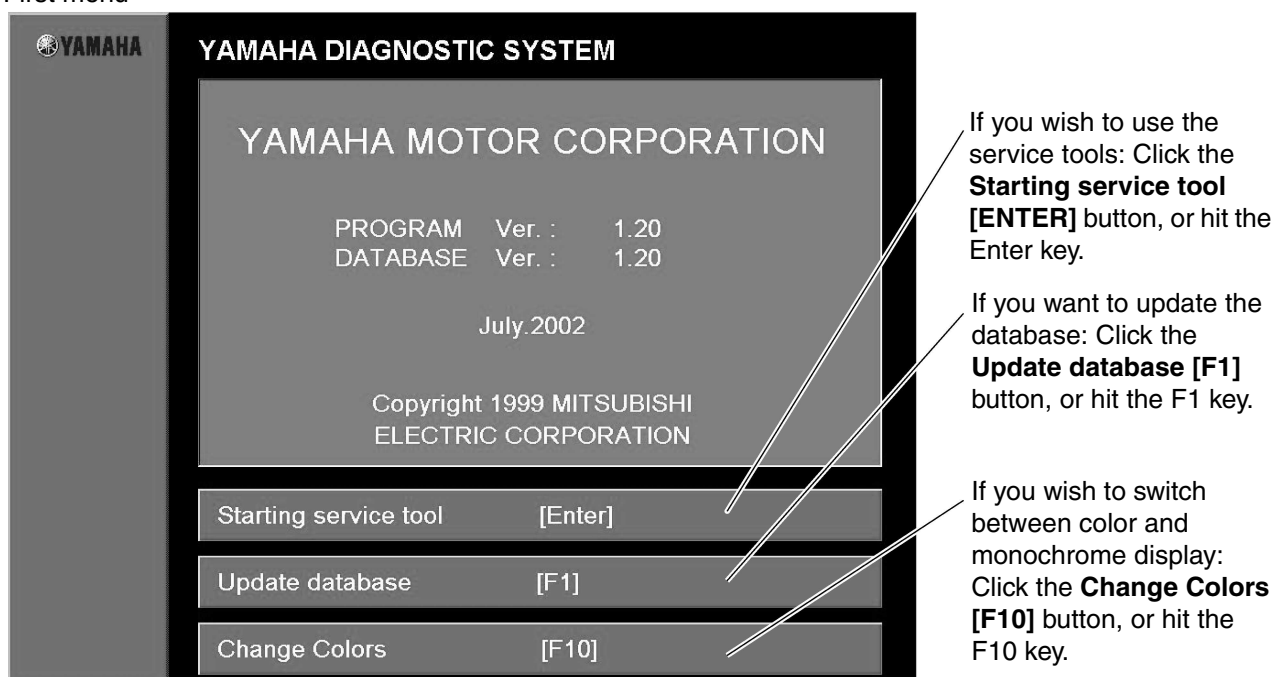

Fig. 6
4. Open the Yamaha Diagnostic System window. (Fig. 5) After about three seconds the display will automatically go to the first menu, or click or press any key to go to the first menu. (See fig. 6.)